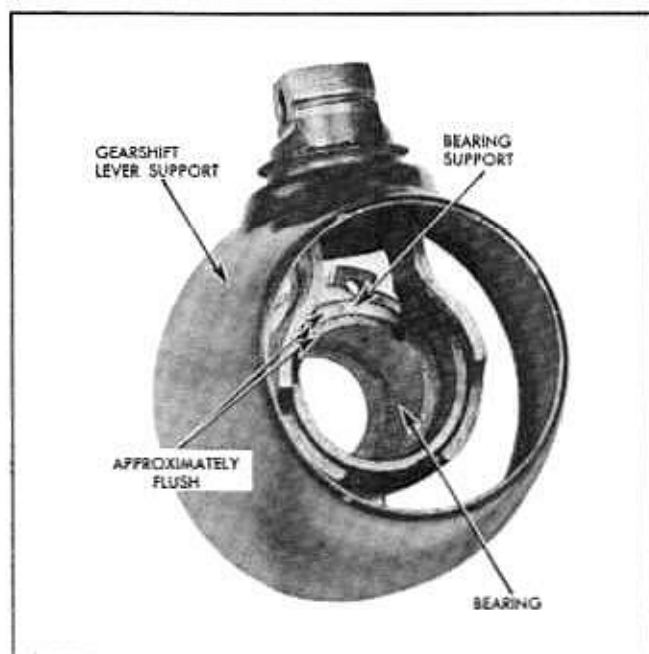
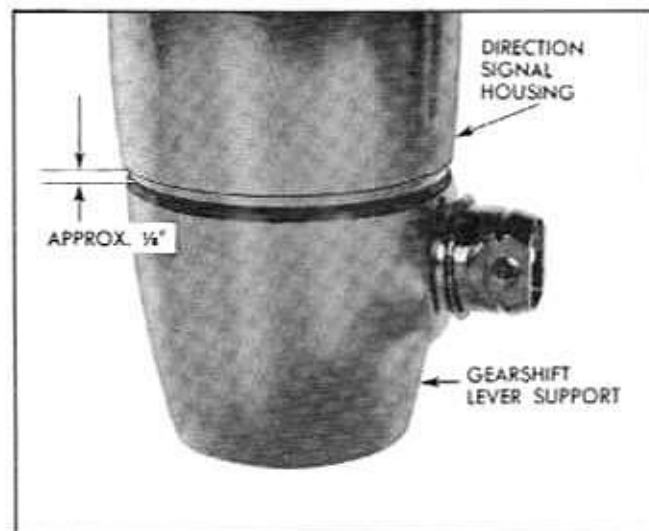

Fig. 7-12 Assembly of Bearing Support and Lever Support
Fig. 7-13 Clearance Between Lever Support and Directional Signal Housing
9. Lubricate screw threads in bearing support with Lubriplate 105 and screw bearing support (die casting) on bearing in gearshift lever support until bearing and support are approximately flush at bottom end (Fig. 7-12) with gap in bearing support flange toward gearshift lever support. This adjustment determines clearance between gearshift lever support assembly and direction signal housing. Clearance should be approximately $\frac{1}{8}$ " (Fig. 7-13). Set direction signal housing on bearing support to check clearance before proceeding. If clearance is improper,